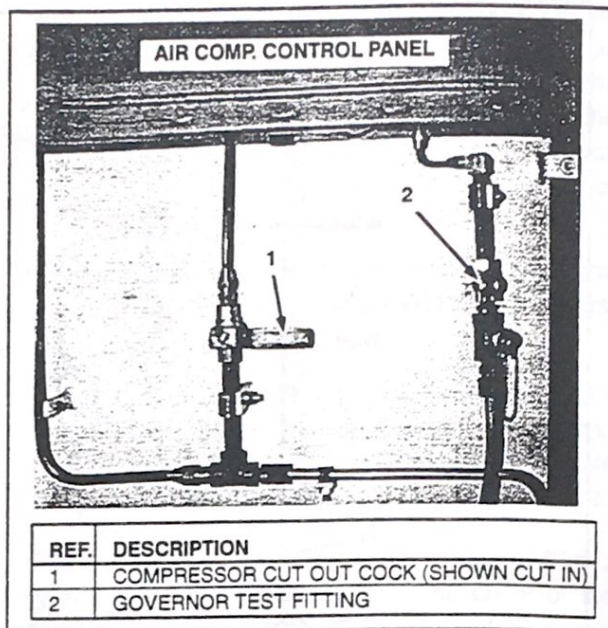

FIG. 23. COMPRESSOR CUT-OUT COCK.
The air compressor can be manually loaded by removing the governor test fitting (Item 2, Fig. 23) and
1. Air Compressor Cut-Out cock – Mounted on the compressor control panel (Item 1, Fig. 23) located in the radiator compartment.